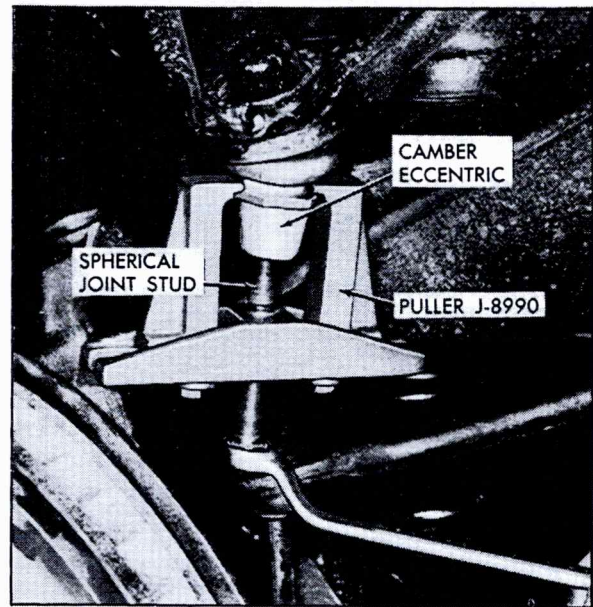

Fig. 3-10 Removing Camber Eccentric
7. Remove camber eccentric from joint stud, using Puller, J-8990, Fig. 3-10.